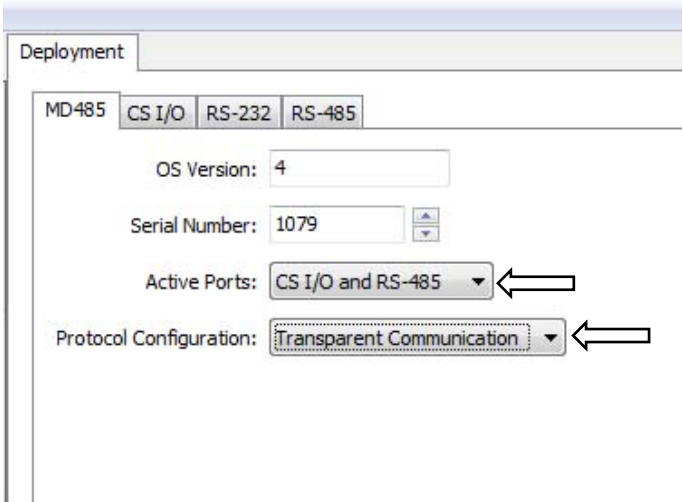

FIGURE 8-13. MD485 Deployment tab
- 4. Click the **MD485** tab. Select *CS I/O* and *RS-485* in the **Active Ports** box. Select *Transparent Communication* in the **Protocol** box (FIGURE 8-13).